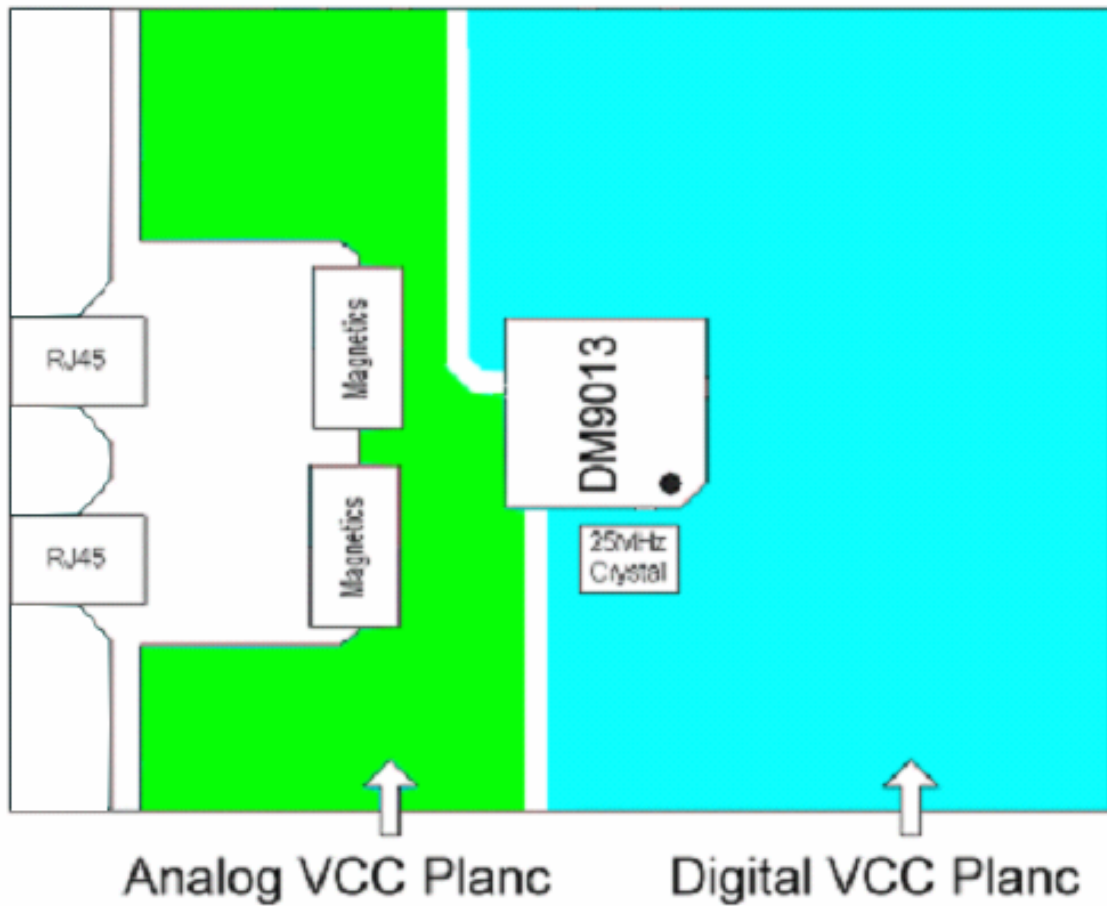

Figure 4
- The network interface (see Figure 3-1 and Figure 4) does not route any digital signal between the DM9013 RX±and TX±pairs to the RJ-45. Keep the two pairs away from all the other active signals and the chassis ground.
- The power planes should be as approximates illustrated in Figure 4.